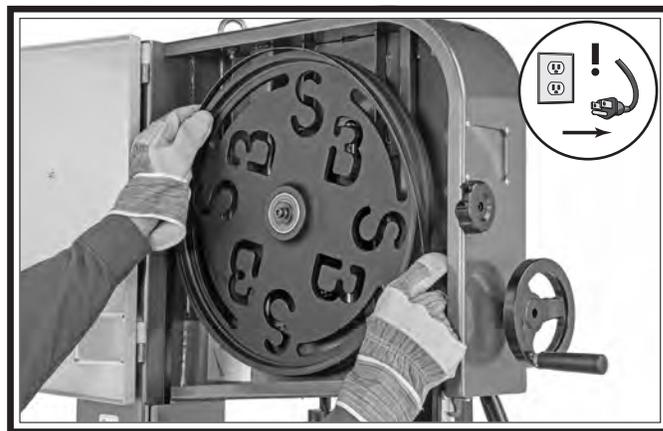

Figure 93. Example of removing blade and upper wheel to access blade tension lever components.
4. Open wheel covers, remove blade (see **Figure 93**), and remove upper wheel.